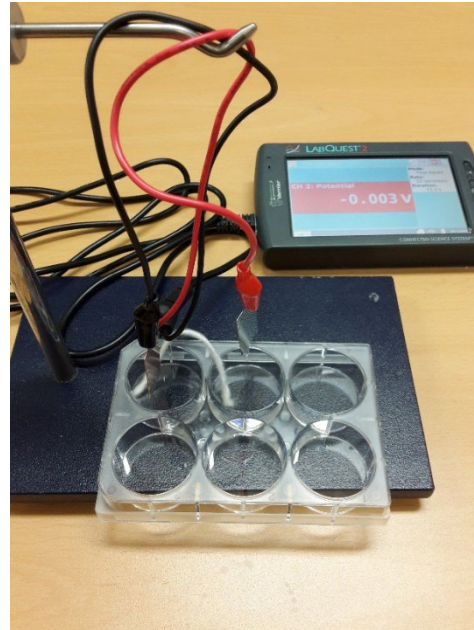

Figure 32.3 Setup for measuring the cell potentials of six galvanic cells
1) You will prepare a variety of semi-microscale voltaic cells in a 6-well test plate and fill them three-fourths full of the 0.1 M solutions as shown in Figure 32.3. Share these solutions with other groups of chemists in the laboratory.